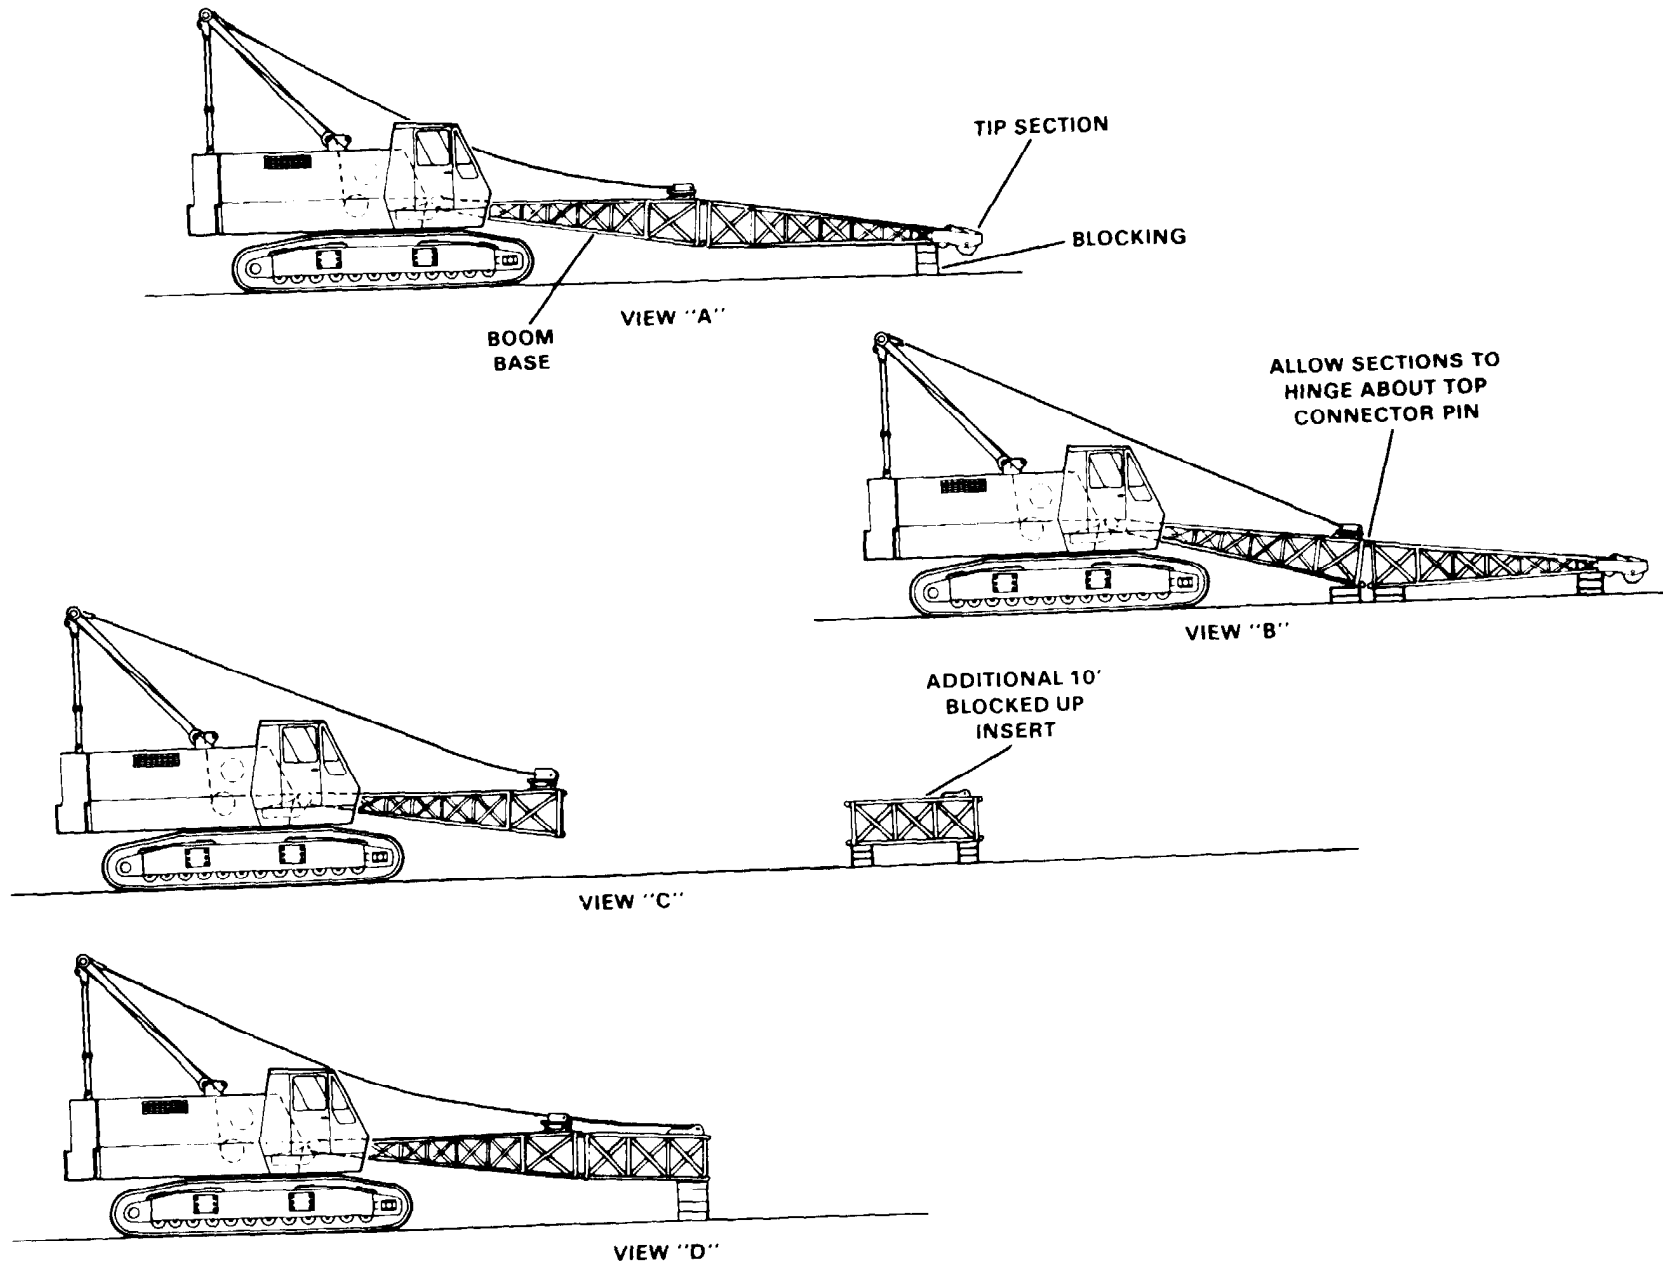

Figure 4-9. Increasing Boom Length
2. When the required insert is laid out, lower the basic boom. Provide a minimum of 6 inches of blocking under the base and tip section (see Figure 4-9, View A). Pin the upper spreader to the boom base and remove the guy lines connecting the tip section to the upper spreader. Engage the boom hoist to remove all slack in the hoist lines.
4. Allow the attachment to hinge about the top connecting pins and lower the base and tip until they rest on the blocking. Remove the top connecting pins (see Figure 4-9, View B).
7. Lower the attachment and provide blocking under the end of the insert. Install the guy lines from the end of the insert to the spreader (see Figure 4-9, View C). Unpin the upper spreader from the boom base.